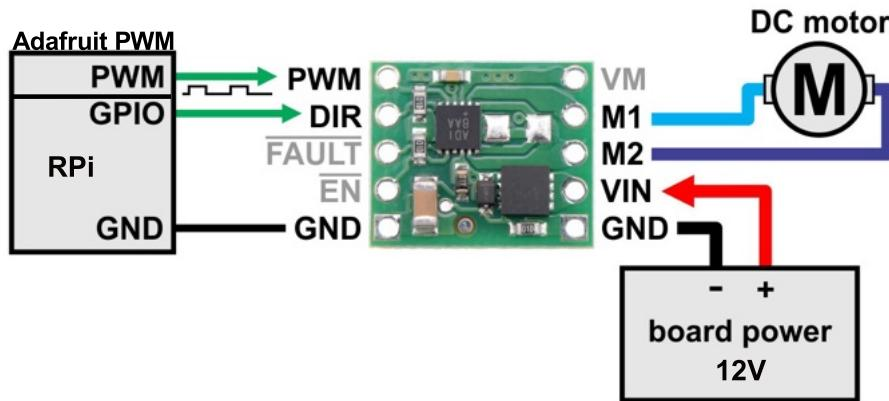

Figure 20: The Motor Driver board and PWM interface diagram. From <https://www.pololu.com/product/2961>
The motor drivers are responsible for controlling the amount of power delivered to the motors, as well as which direction they spin. The MAX14870 (Maxim Integrated Co.) accepts a number of different inputs but our application only uses four: the PWM input, the direction input and power and ground for the motor (figure 20). The PWM comes from the Adafruit PWM driver, while the direction control comes from one of the pins (GPIO) on the RPi. When the joystick is moved from the dead zone³, a value proportional to the displacement of the joystick is generated. Since the PWM has 12 bits of resolution (meaning it has 4096 (2^{12}) levels from off to on), numbers from 0 to 4095 represent the levels from fully off (0) to fully on (4095). For instance, if the gamepad joystick is moved halfway between the center position and fully engaged, the value from the joystick will be 2048, and the pulse width proportion will be 50%, or half power. This pulse waveform goes into the MAX14870 where the H-bridge⁴ pulses 'on' half the time and 'off' half the time, creating the effect of half power. You most likely performed this exact same technique when driving your SeaPerch for the first time, essentially toggling the switches back and forth (pulsing) to change the speed of the vehicle to gain a bit more fine control.